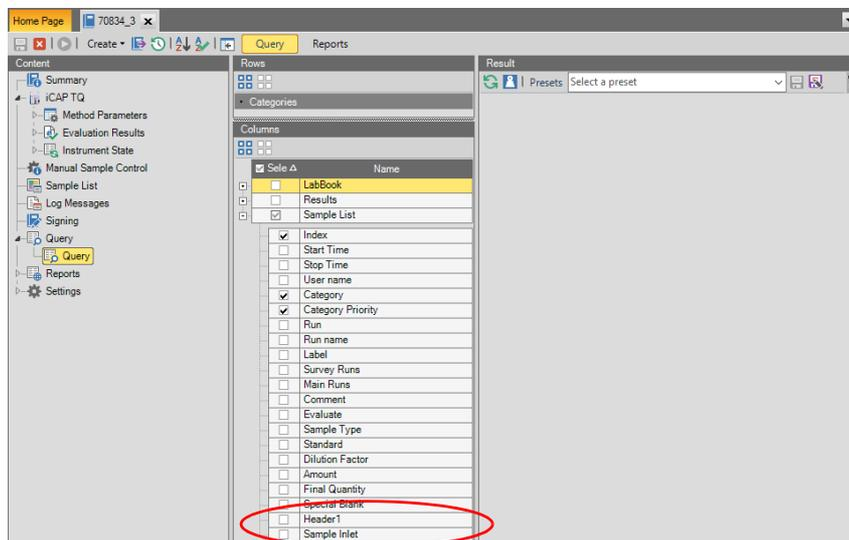

Figure 14-65. LabBook Query with new columns
1. After a LabBook is completed, several query options allow to read the data of the additional columns. For example, select Query from the Content pane, and then select the Categories and least the new columns from the Columns pane, see Figure 14-65.